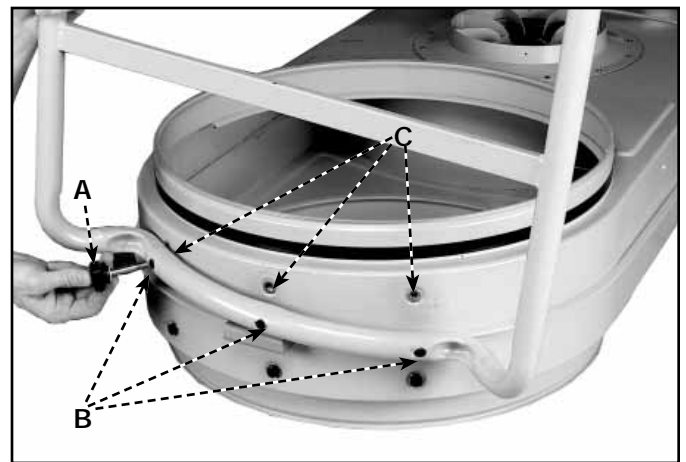

Fig. 2
1. Place motor/blower assembly with the motor down. (Fig. 2)
2. Place 3/8" (18 mm) flatwasher on knob (A) Fig. 2.
3. Align holes (B) on legs with holes (C) in the motor/blower assembly. Legs should extend up. Insert knob through hole (B) in the legs and thread into hole (C) in the motor/blower assembly. Tighten knob securely.